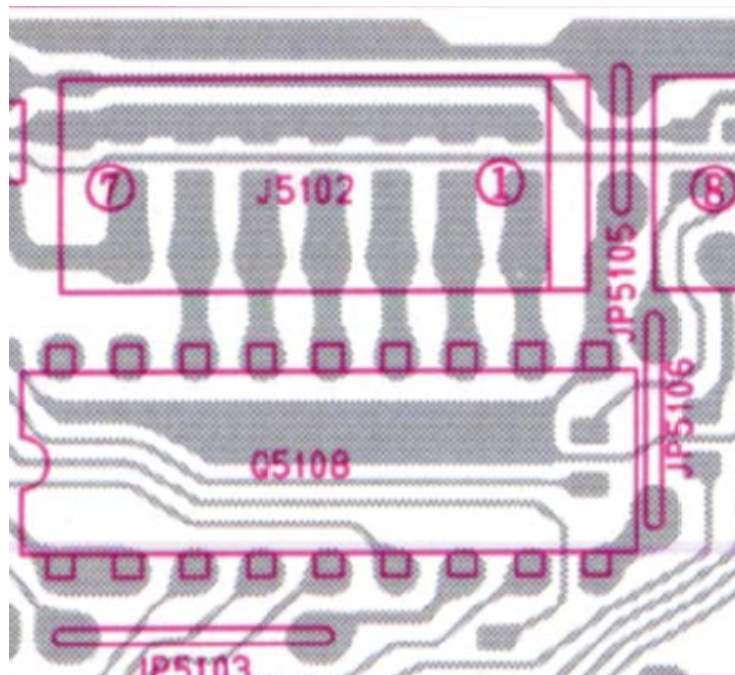

Figure 3-2.
8. Carefully cut jumper JP5106 which is located to the left of Q5108 as seen in Figure 3-2 below and bend two ends away from each other.